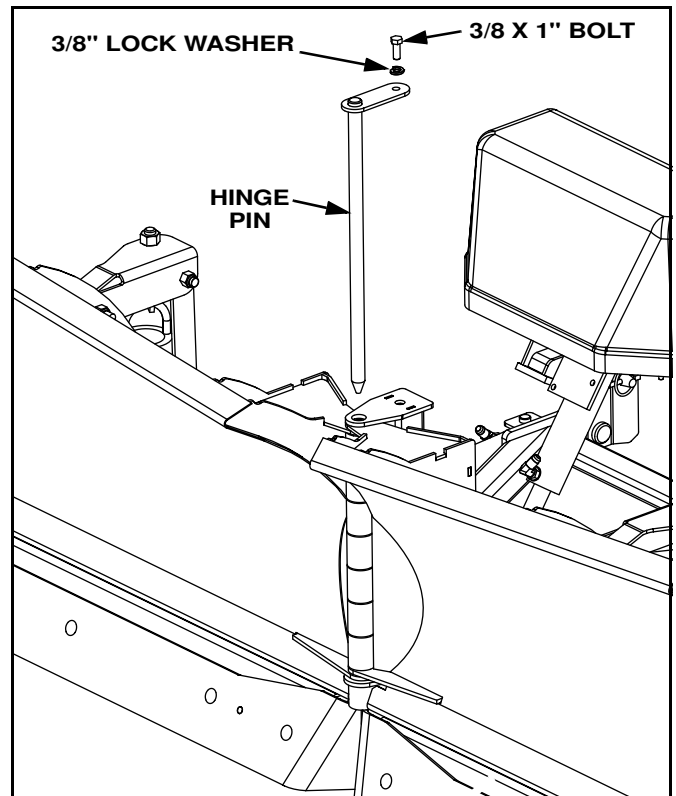

Figure 1-8
18. Align the wing and A-frame/tower hinges and insert the hinge pin. Secure with a 3/8" x 1" bolt and 3/8" lock washer. (See Figure 1-8)